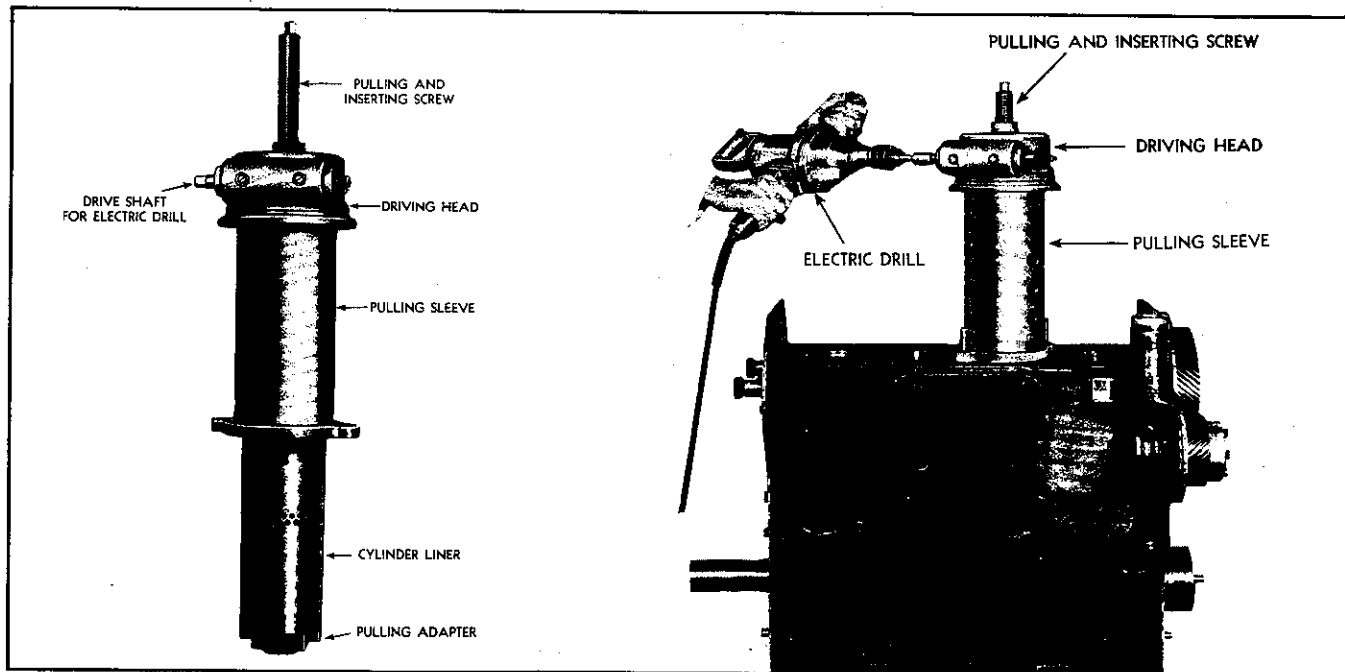

Fig. 5—Removing a Press Fit Cylinder Liner.
2. **Remove Cylinder Liner—Press Fit**—The screw and driving head of the tool, illustrated in Fig. 5, is used both for pulling and replacing the cylinder liner, different adapters being used.